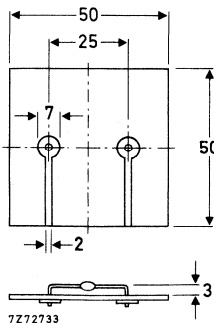

Fig. 2 Mounted on a printed-circuit board.
2. Thermal resistance from junction to ambient; device mounted on a 1,5 mm thick epoxy-glass printed circuit board; Cu-thickness $\geq 40\text{ }\mu\text{m}$; Fig. 2 (see "Thermal Model")